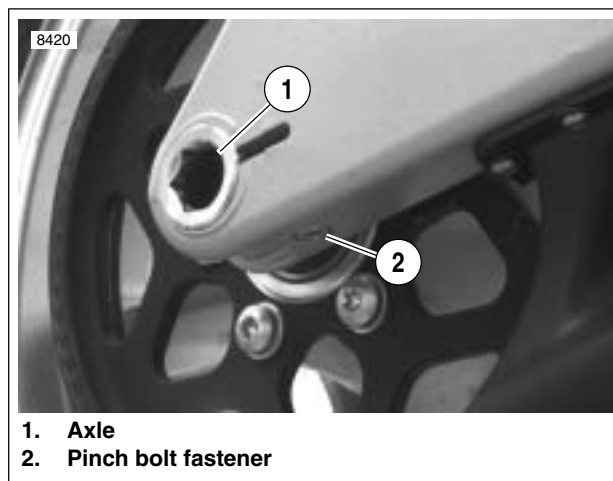

Figure 6-41. Rear Wheel Mounting, Right Side
5. See Figure 6-41. Loosen rear axle pinch fastener (2).
6. Loosen rear axle (1) approximately 15 rotations to allow partial tension to be removed from rear drive system.
8. See Figure 6-41. Tighten rear axle (1) to 23-27 ft-lbs (31.2-36.6 Nm), back off two full turns and then retighten to 48-52 ft-lbs (65.1-70.5 Nm).
9. Tighten rear axle pinch fastener (2) to 40-45 ft-lbs (54-61 Nm).